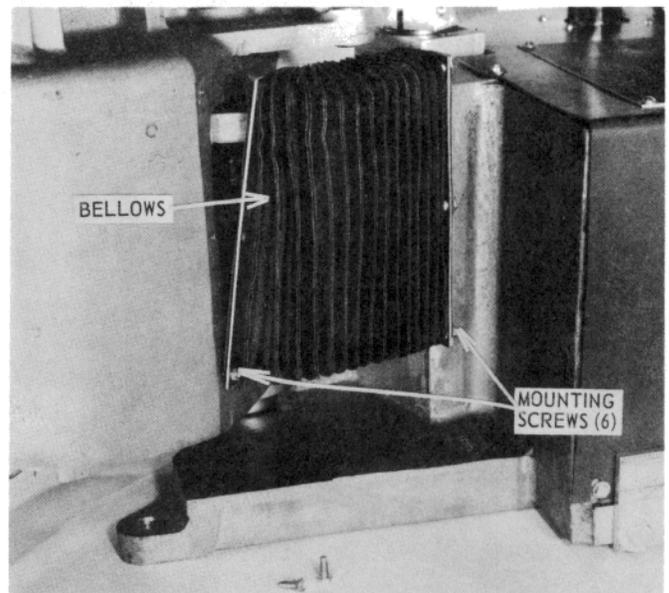

Figure 41 – Bellows
- 2.1.1 Disconnect both bellows (see Figure 41).